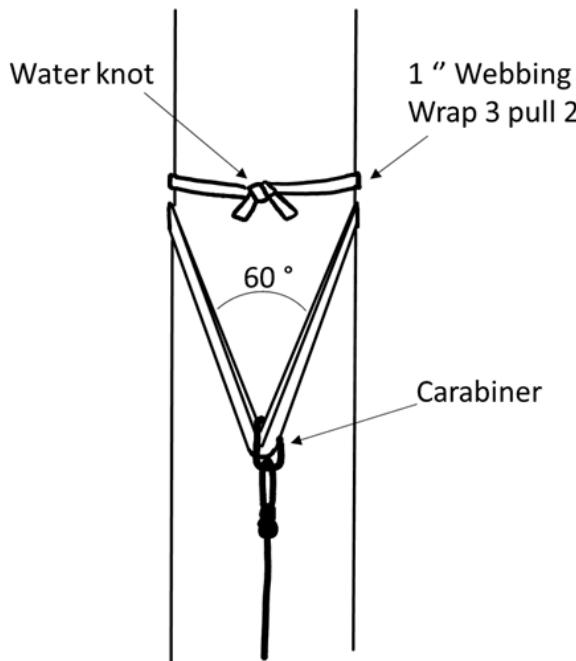

Figure 4. Wrap 3-pull 2 with webbing
- Never use a friction wrap on stalagmites. The wraps can work their way over the top of the formation which could cause the rig to fail (Figure 4).